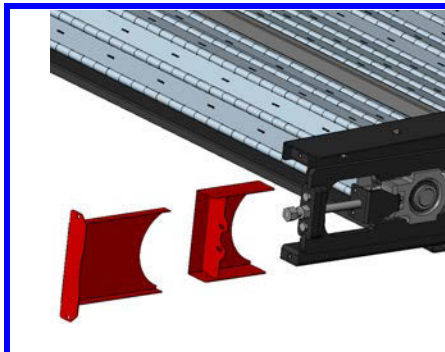

Figure 6 : Sprocket protection
1. Remove the protection plates from the drive sprockets and the skirts, removing the fixing screws (**Figure 6**).